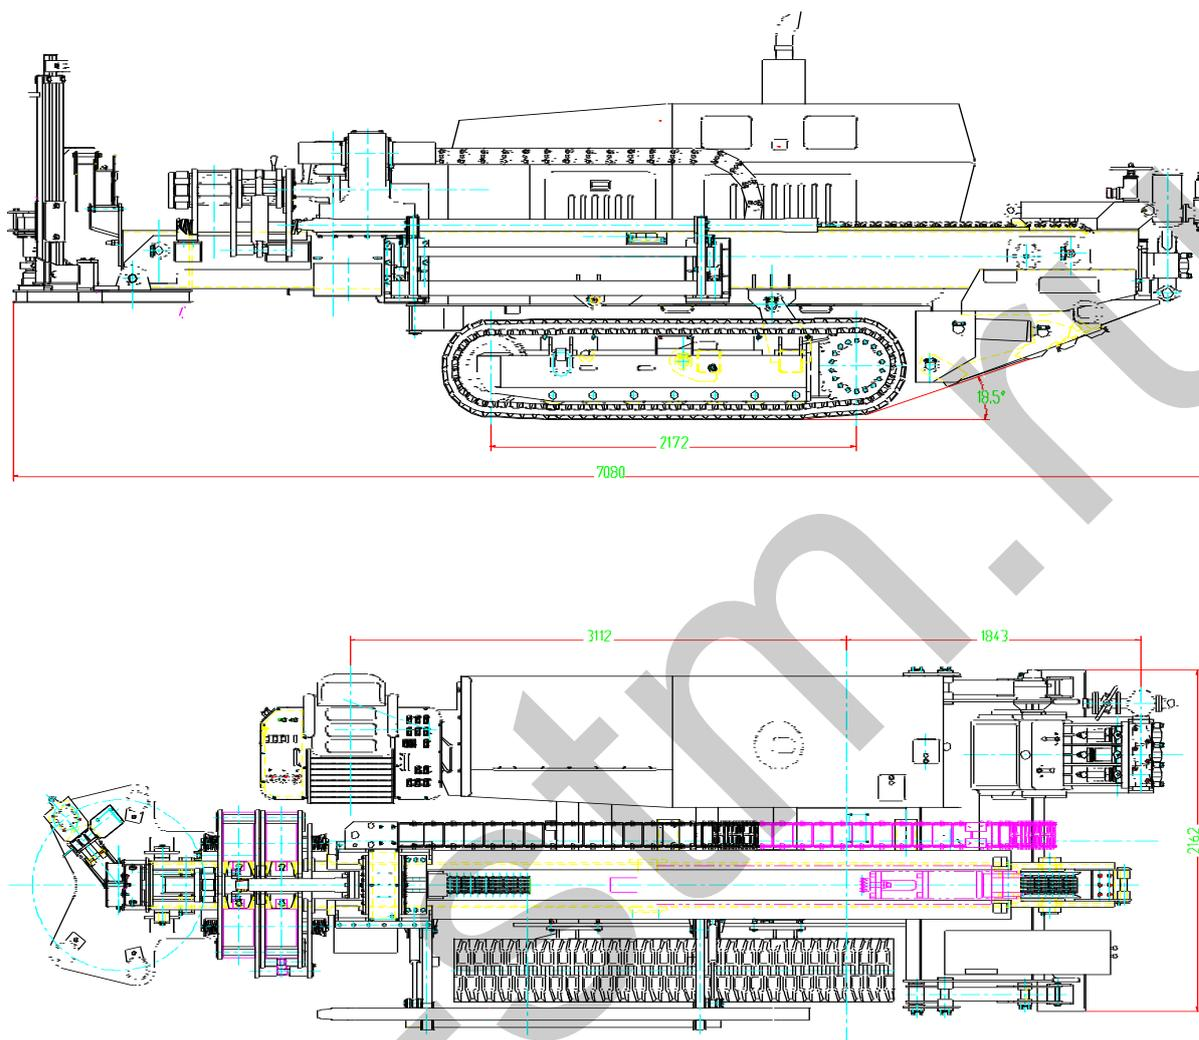

Figure 1 Outline drawing of drill
1. Please refer to Figure 1 for outline dimension of drills.